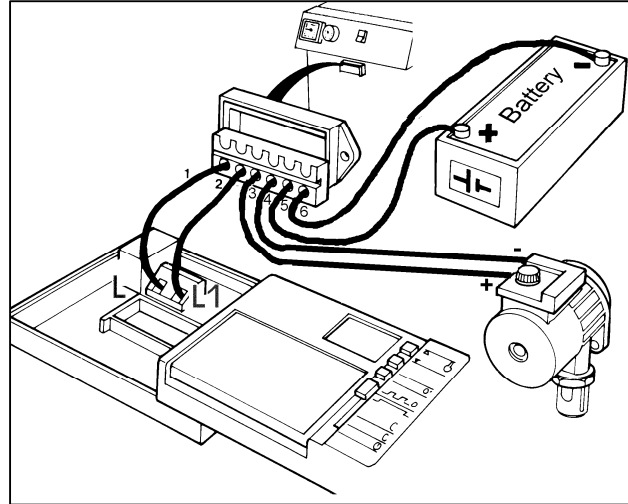

Figure 6
**Warning:** Never change the + pole with – pole on the battery (See figure 6).
1. The connection of the room thermostat is identical to the connection for the 230 Volts version. Use figure 6 instead of figure 5.